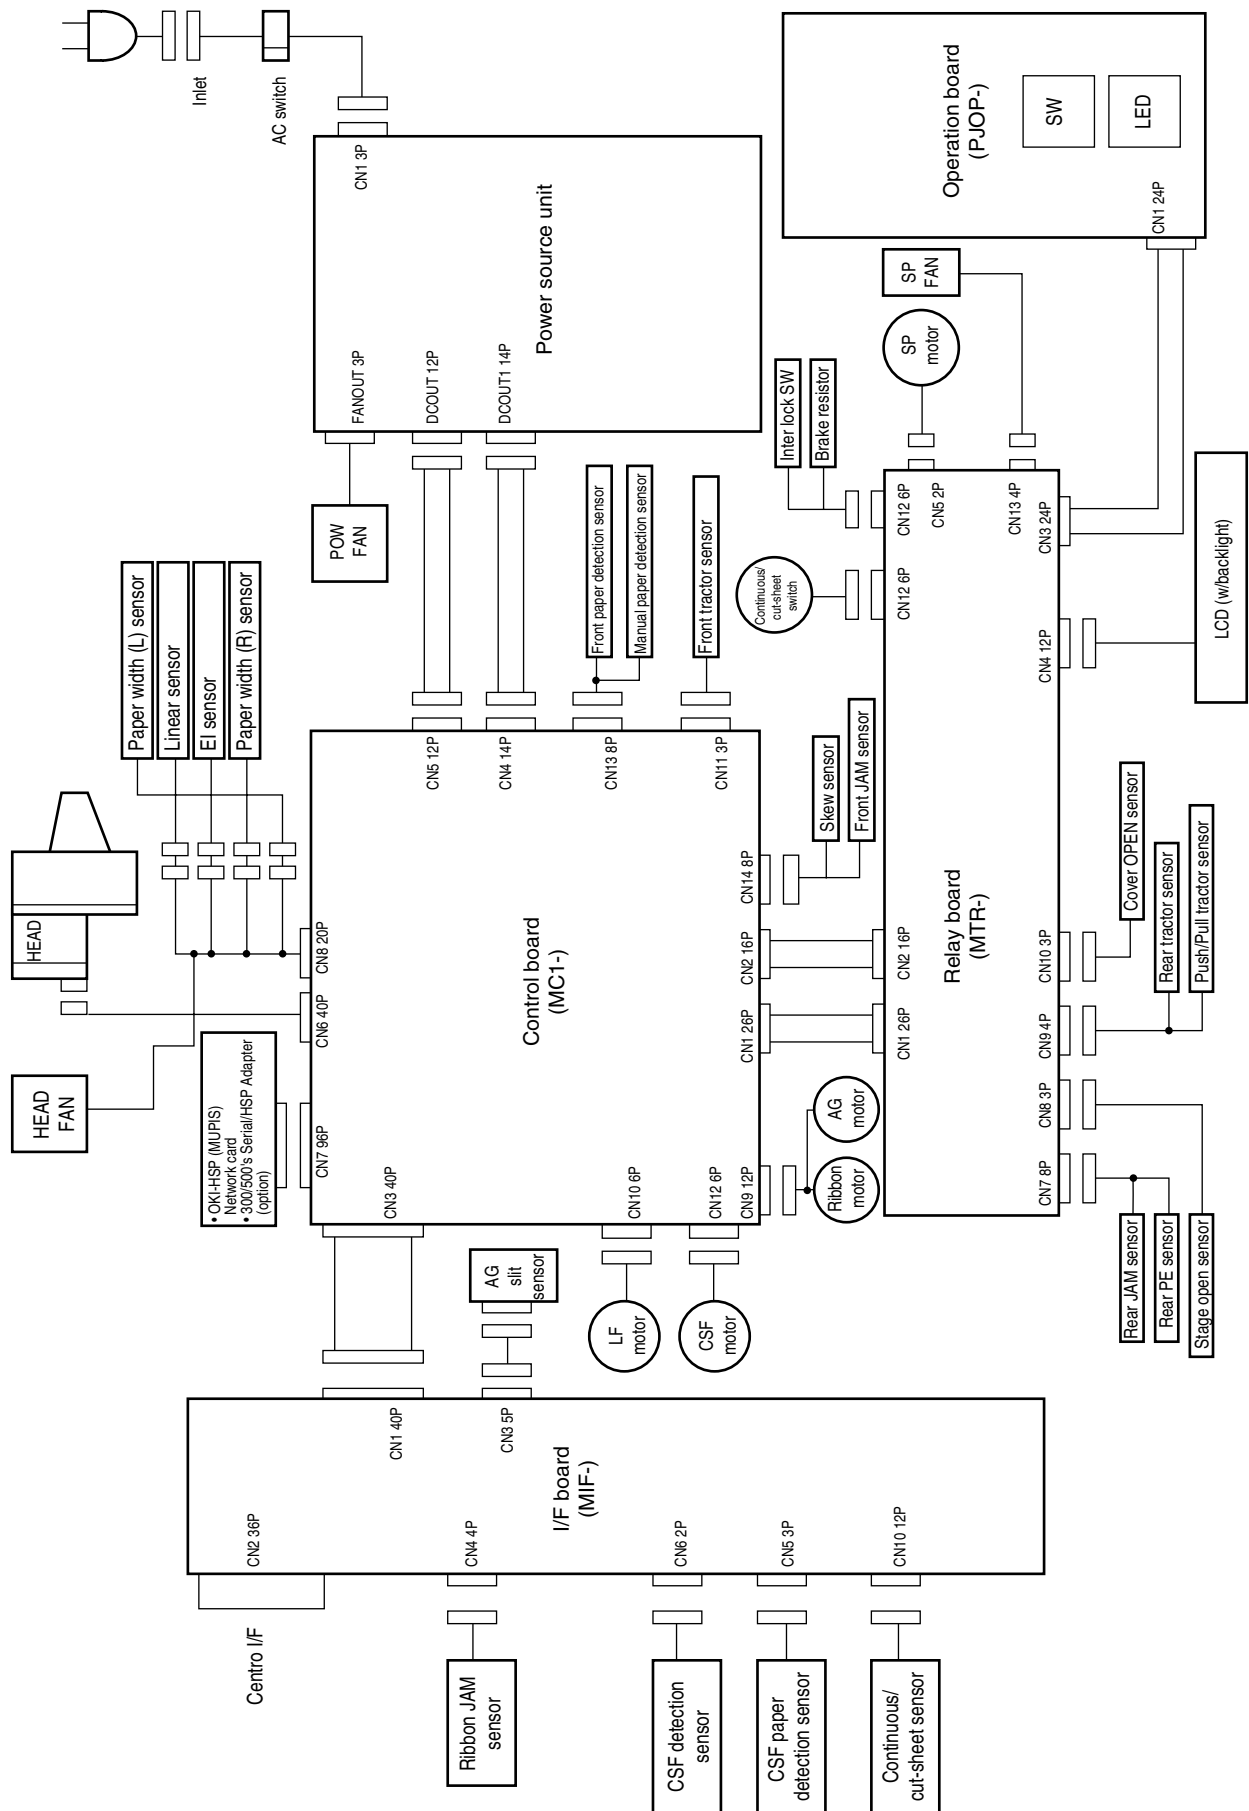

Figure 12-1 Connection Diagram
12.1 Summary (See Figure 12-1)